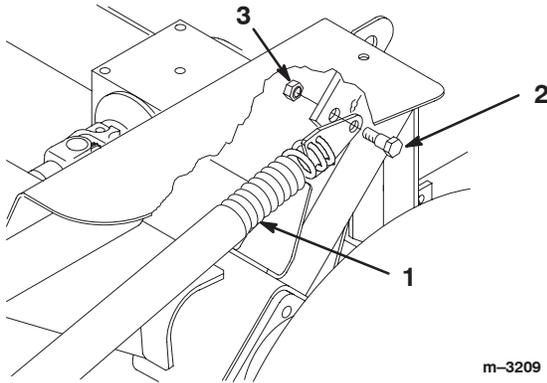

Figure 24
8. Check to see if tension has been removed from the spring assemblies. If tension remains add blocks to raise carrier frame higher. If there is too much tension use a smaller block (Fig. 24).
9. Remove shoulder bolts (3/8 x 7/8 inch) and locknuts (3/8 inch) securing spring end plate assemblies to carrier frame (Fig. 24).